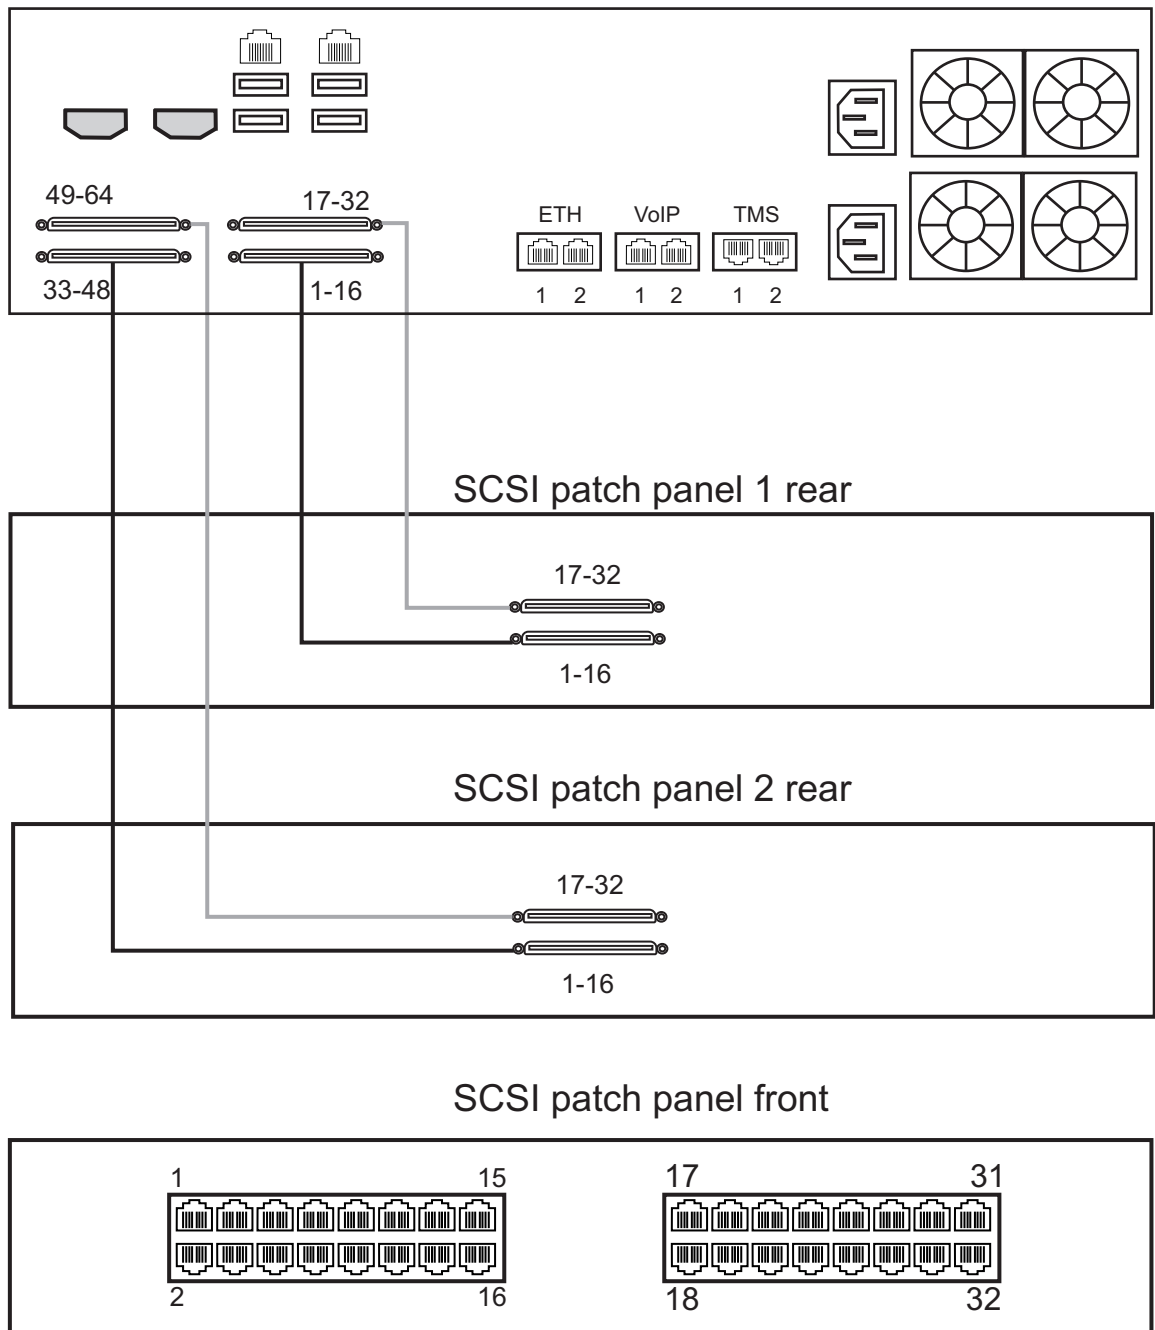

Figure 2.6 SCSI Interface to the PSTN
A TMG5800 with 4 SCSI connectors enables the connection to T1/E1/J1 lines. The termination impedance is set at 120 ohms. It is possible to connect an external balun in order to convert to 75 ohms. See figure 2.6 on page 16
1. Start with the SCSI ports 1-16 located at the bottom right as shown in figure 2.6 on page 16. Connect one SCSI cable between this port and SCSI patch panel number 1, ports 1-16. Connect SCSI ports 17-32 to patch panel number 1, ports 17-32.